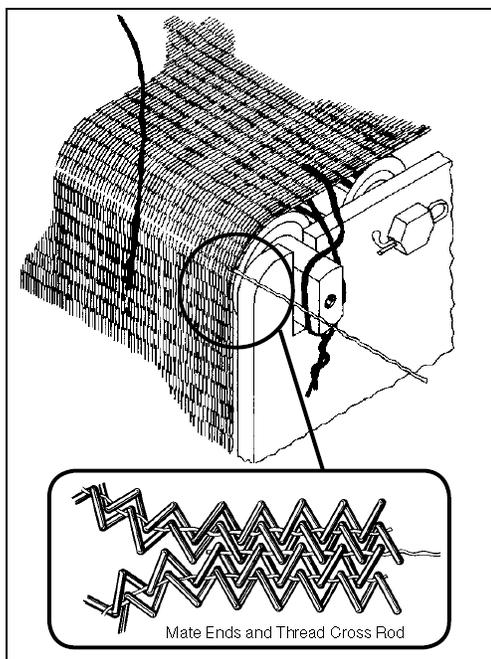

Fig. 5. Mate Belt Ends Together and Thread Cross Rod
7. As shown in Fig. 5, mate the wire mesh belt ends together like a zipper, making sure the belt's outer edges are even. Push the wire mesh belt's cross rod through each of the mated end loops. This will make the wire mesh belt complete.